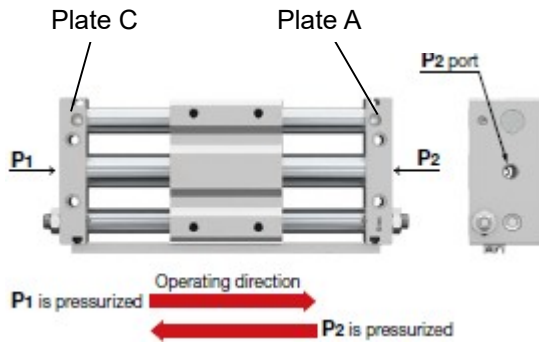
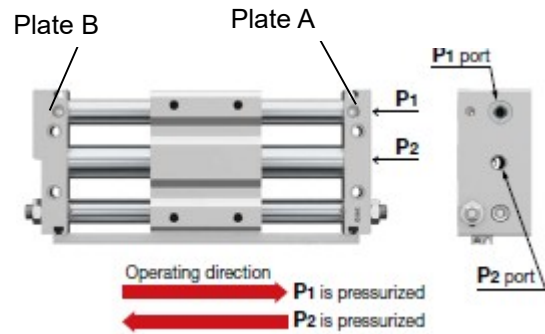

Fig.5-1 Bilateral piping type [CY3S]
Fig.5-2 Centralized piping type [CY3SG]
2 types of piping type are available: (1) Bilateral piping type [CY3S] One piping port is located at each end plate, (2) Centralized piping type [CY3SG] Two piping ports are both located at plate A. (Fig. 5-1, Fig. 5-2)